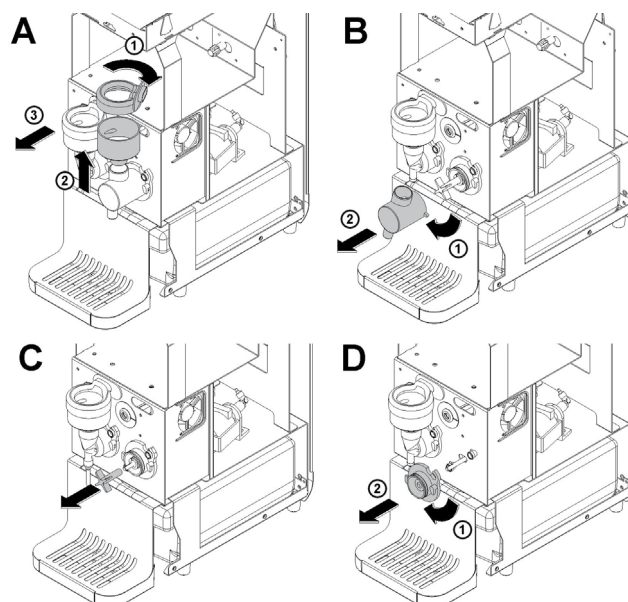

figure 8
- 5 Disassemble the mixers as follows (see figure 8):